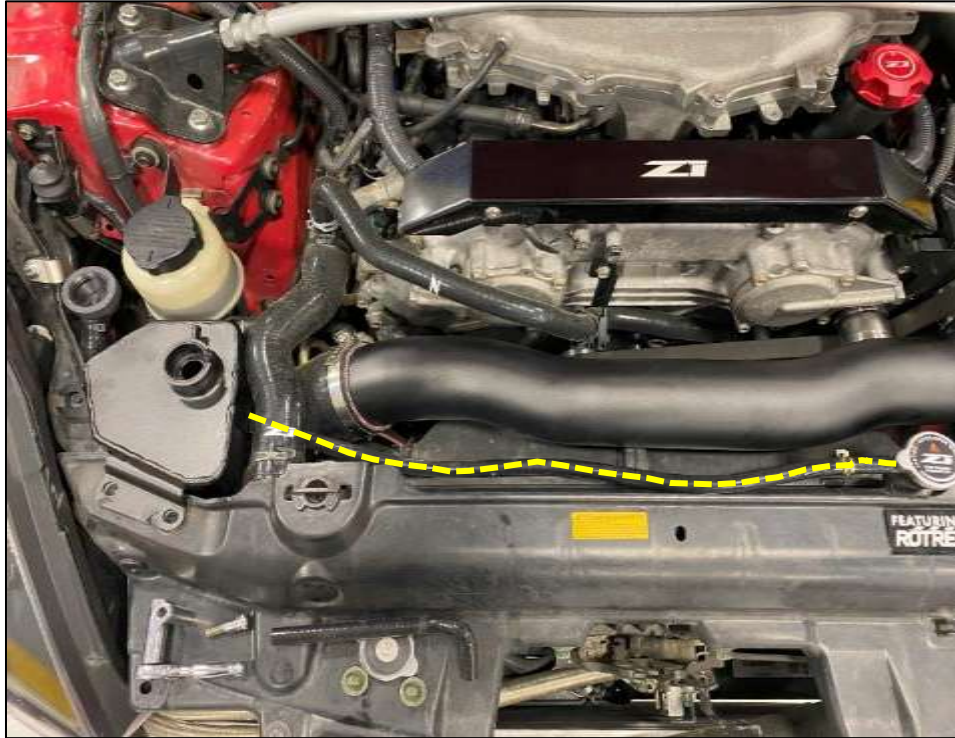

Figure 66
9. Route the Coolant Reservoir Hose from the Coolant Overflow tank to the Fitting on the Radiator. *Figure 66.*